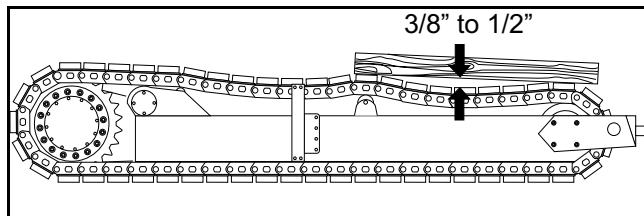

Figure 6 - 3 Proper Track Tension
5) A properly tensioned track should have a 3/8" to 1/2" gap between a straightedge and the track. (Figure 6 - 3)